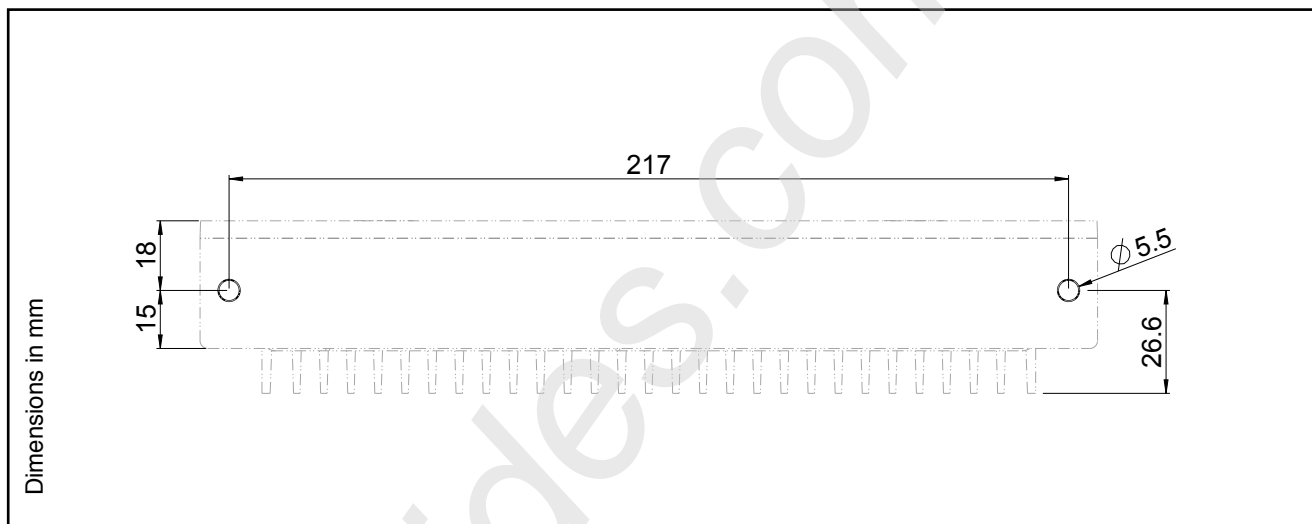
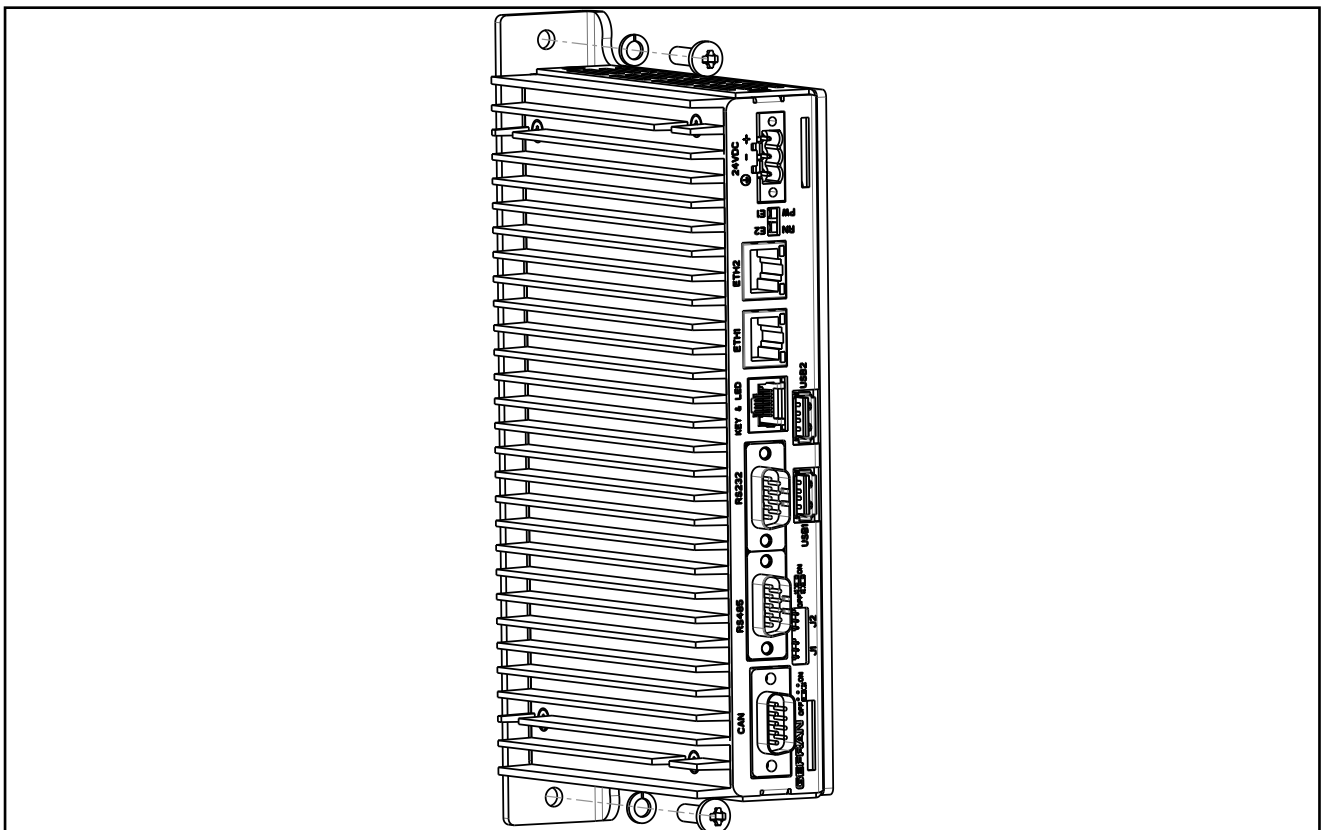

Figure 11 - Hole dimensions for installation of the internal cabinet control panel
Figure 13 - Vertical installation
- vertical, Fig.13.
Prepare the M5 threaded holes, done with the template as shown in Fig.11, position the product and screw in place as shown in Fig.13.